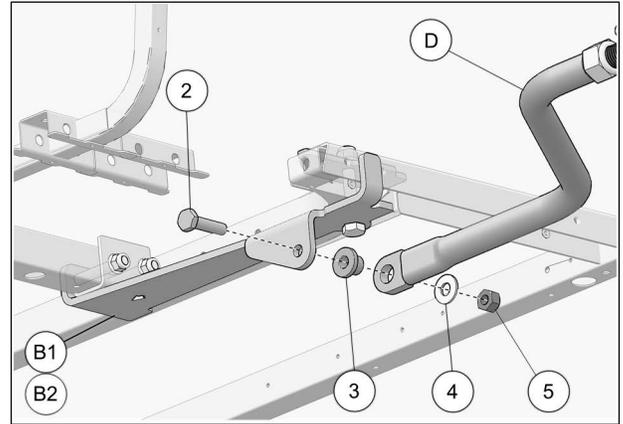

Fig. 13
11. Attach the rear suspension stabilizing rod (D) to anchor plate (B1-B2) using the bolt (2), bushing (3), washer (4) and nut (5). Torque to 50 Nm [37 lb•ft]. See Fig. 13